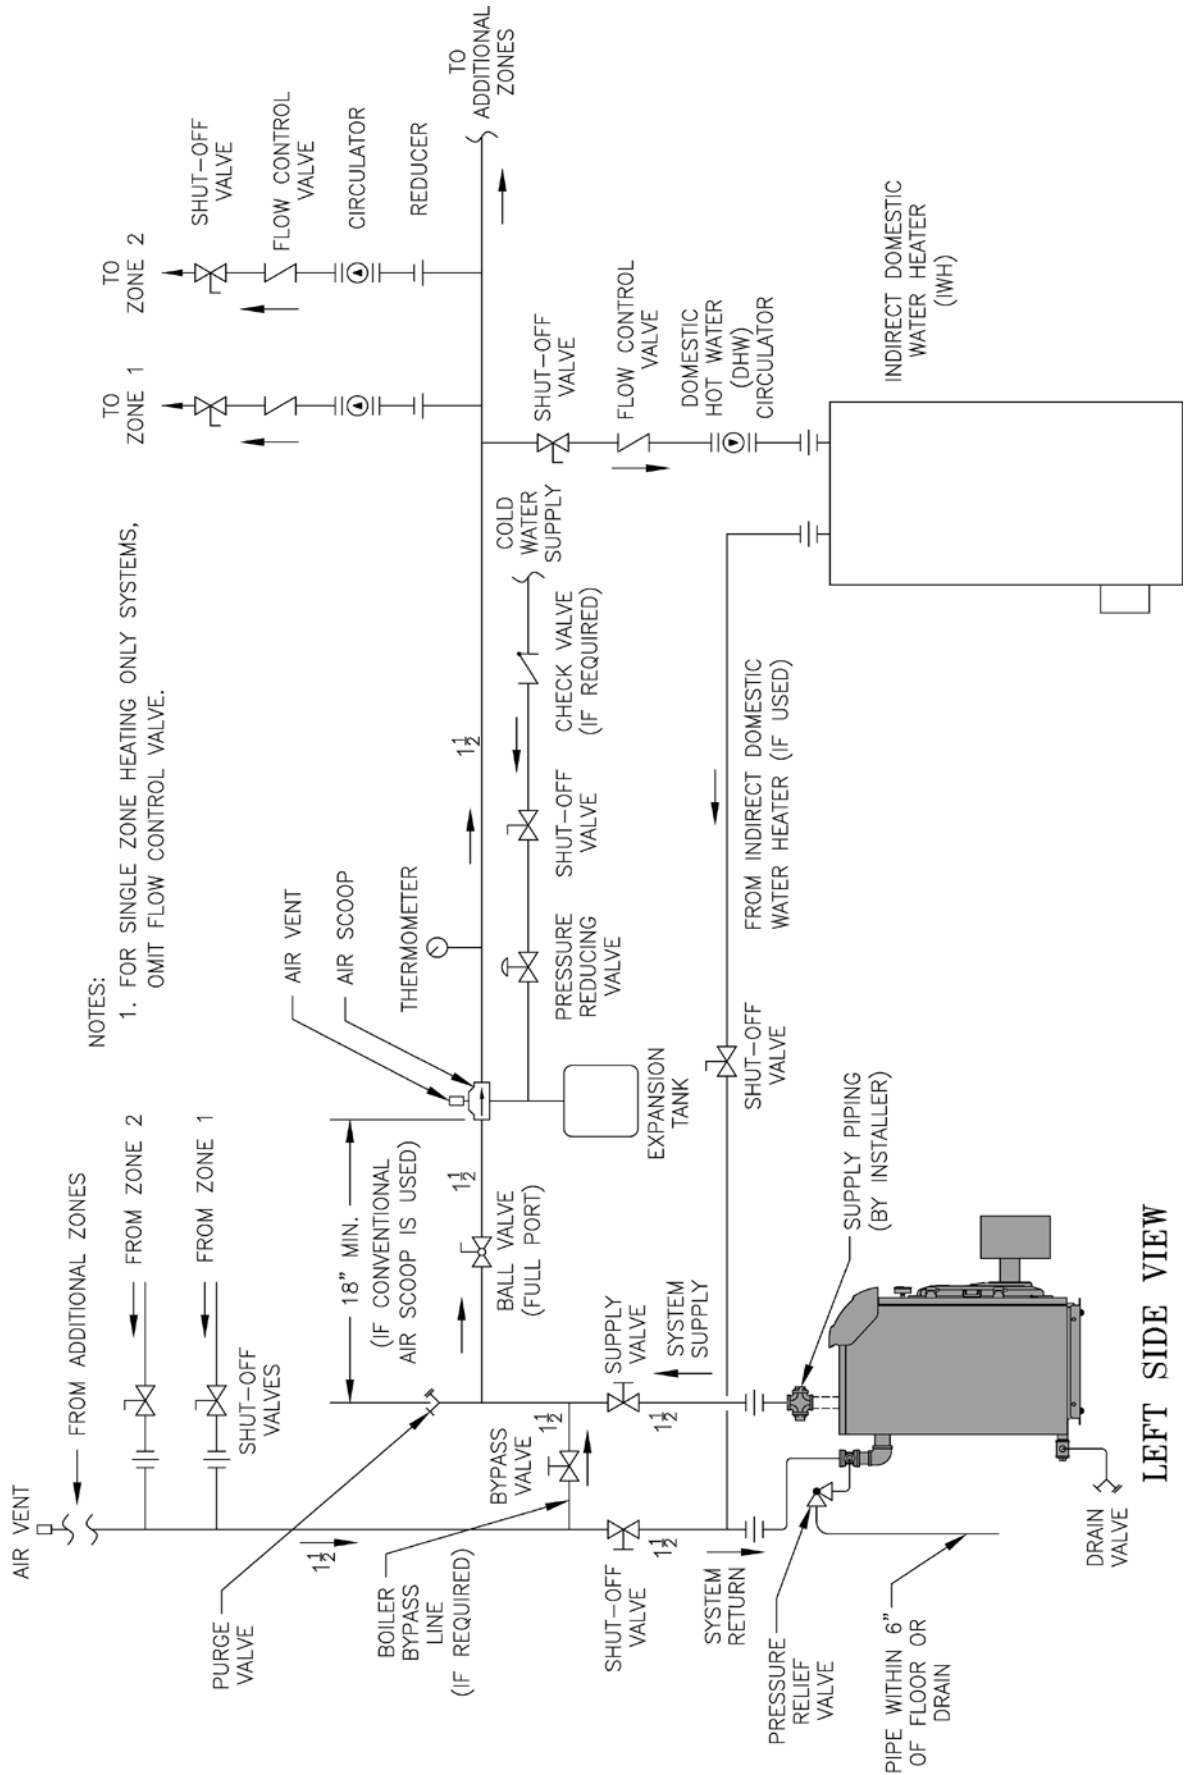

Figure 10: Recommended Water Piping for Circulator Zoned Heating Systems
B. CONNECT SYSTEM SUPPLY AND RETURN PIPING TO BOILER. See Figures 10 and 11. Also, consult Residential Hydronic Heating Installation and Design I=B=R Guide.
Use a boiler bypass if the boiler is to be operated in a system which has a large volume or excessive radiation where low boiler water temperatures may be encountered (i.e. converted gravity circulation system, etc.) The bypass should be the same size as the supply and return lines with valves located in the bypass and return line as illustrated in Figures 10 and 11 in order to regulate water flow for maintenance of higher boiler water temperature.